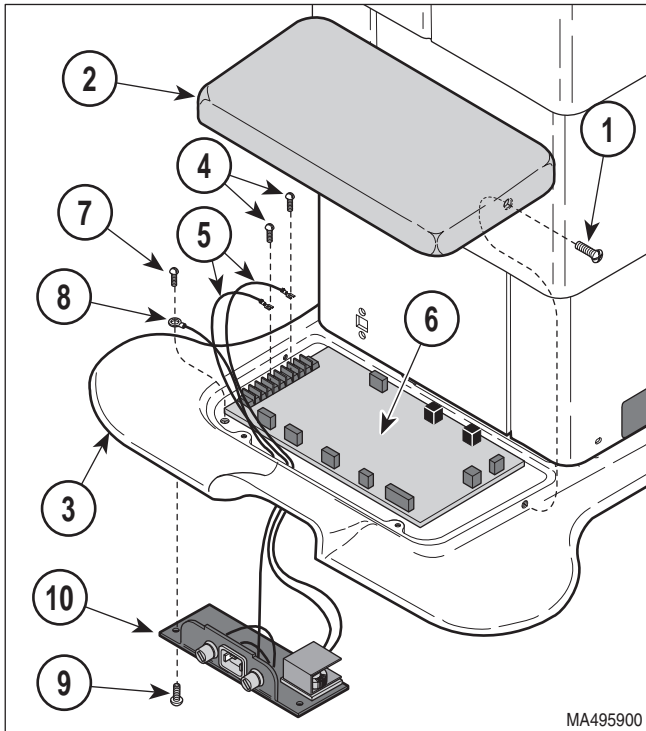

Figure 4-59. Power Inlet Bracket
- (1) Remove two screws (1, Figure 4-59) and PC board cover (2) from base casting (3).
- (2) Loosen two terminal screws (4); then tag and disconnect two wires (5) from terminals of PC board (6).
- (1) Insert AC receptacle (3) thru hole in power inlet bracket (4); then push inward until it locks into place.
- (2) Connect two wires (1) and ground wire (2) to proper terminals of AC receptacle (3).
- (3) Install power inlet bracket (10, Figure 4-59) on bottom of base casting (3) and secure with two screws (9).